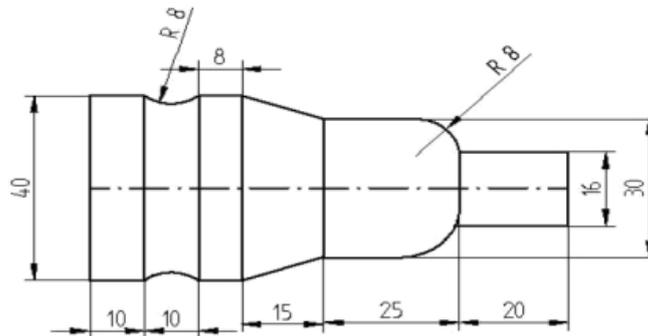

Figure 2
33. Prepare CNC turning part program for figure 2.